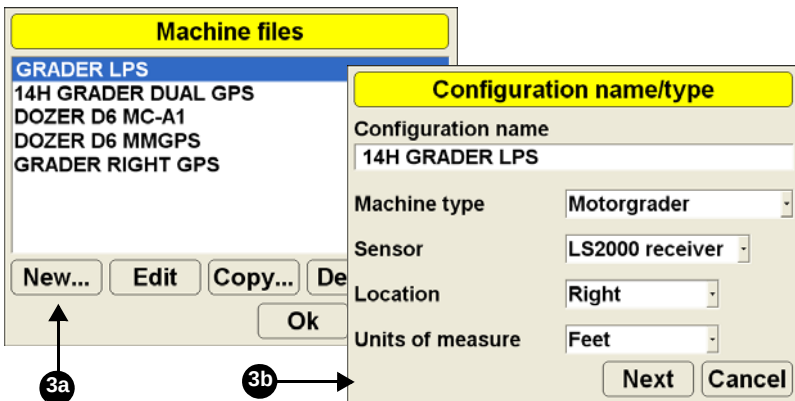

Figure 8-16. Creating the Machine File
3. Enter or select the following configuration and equipment parameters (Figure 8-16). Then press **Next**.